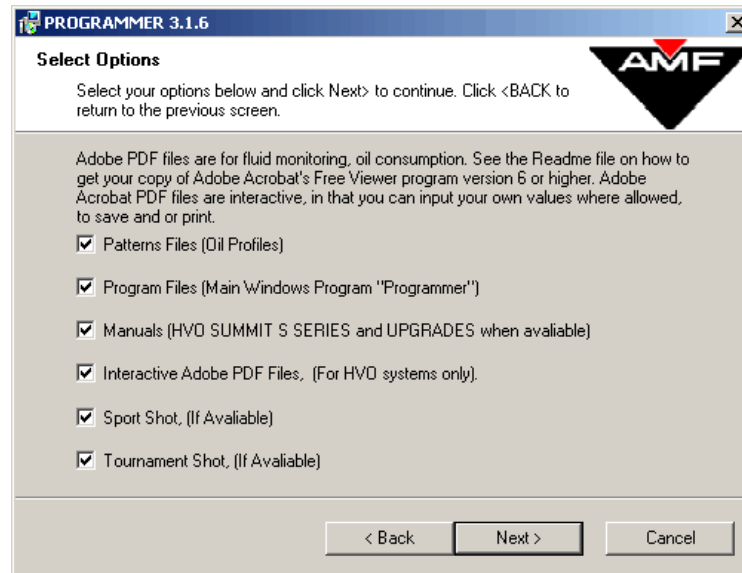

Figure 1-6
8. There are several different files that can be installed that are for fluid monitoring and oil consumption. These files require the use of Adobe Acrobat Reader 5.0 or higher which is included on the cd. It is recommended that all of the checkboxes remain checked for this part of the installation as shown in **Figure 1-6**. Click the **<Next>** button.